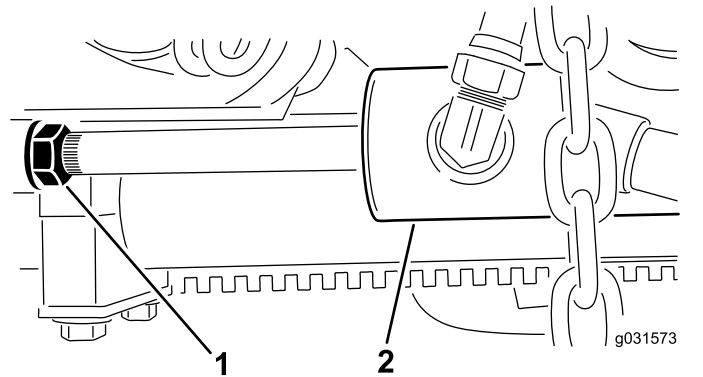

Figure 13
- B. Back off the jam nut on the cylinder (Figure 13).